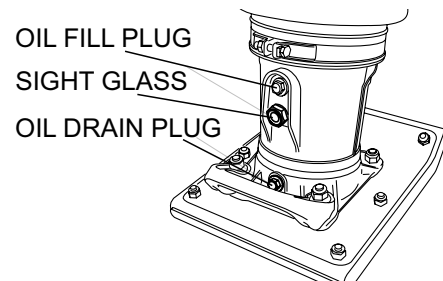

Figure 14. Oil Drain Plug
- Remove the oil drain plug on foot housing (Figure 14) and drain the oil. Refill with approximately 0.8 qt. (0.75 liter) of 10W-30 SE, SF or higher grade motor oil. Oil should be midway in sight glass. Break-in oil should be changed after first 50 hours.